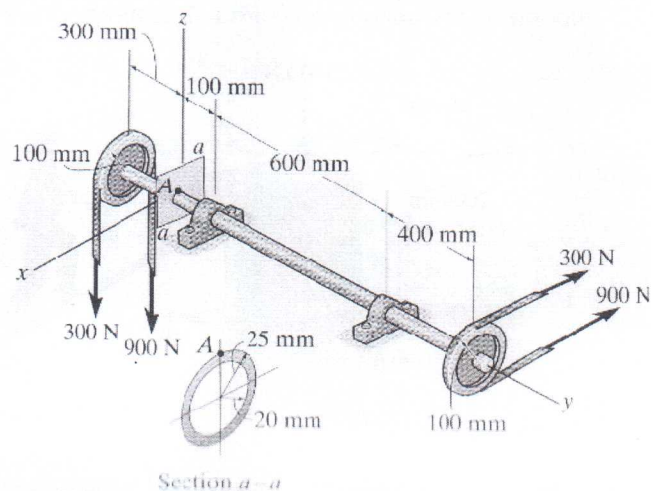

Figure 16.
(16) Determine the state of stress at point *A* on the cross section of the shaft at section *a-a* shown in Figure 16.